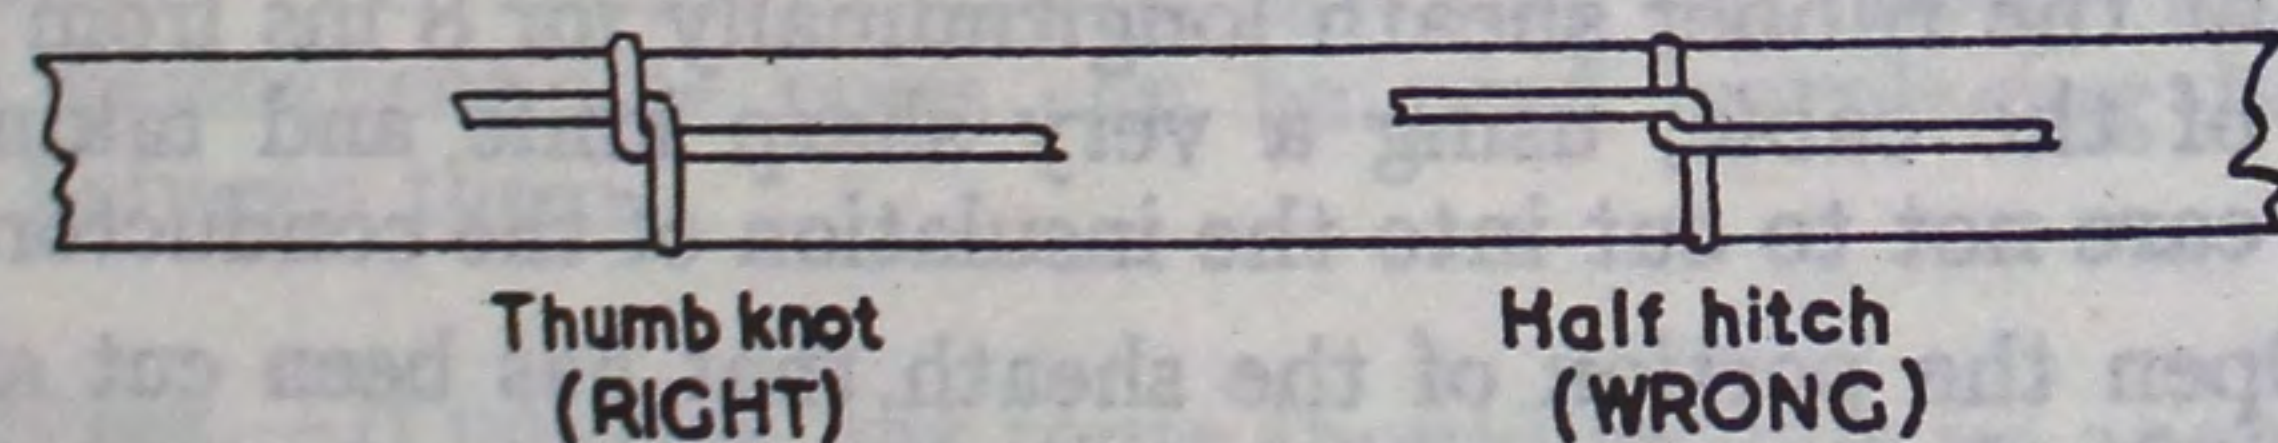

Fig 9.—Thumb knot.
- (f) Bind the joint tightly with lacing twine, making a thumb knot every $\frac{1}{2}$ in throughout its length (see Fig 9).